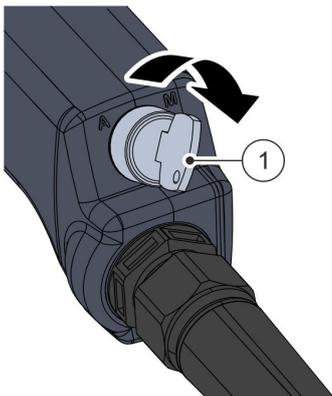

Fig. 68 Switching on manual mode
01. Turn the mode selector switch Fig. 68 / ① on the handheld controller to the "M" position.